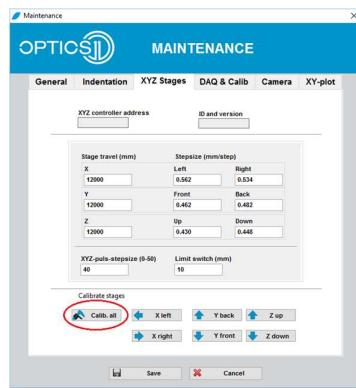

Figure 13: XYZ stage calibration when switching between Chiaro Indenter head (for previous Chiaro versions).
Since the XYZ stage travel values of the Chiaro differs for previous Chiaro versions, you need to update the right values corresponding to the preferred indenter head. This can be accomplished in the ‘XYZ stages’ tab of the maintenance menu by pressing ‘Calib. all’ (Figure 13). You can enter this menu with the password ‘showme’ after clicking the ‘Maintenance’ button in the main software window. This procedure will take a few minutes since all XYZ values are being calibrated.
7. Click the "Scan OP1550 Wavelength" button once. The interferometer screen will now show a progress bar. The live signal window on the screen show oscillations; see Figure 13 B (zoom in if needed). Wait until that is finished and check if no error (Figure 13 D) is reported on the interferometer screen or software. You can also check the final result of the "Wavelength scan" in the corresponding interferometer window Figure 13 C. If an error message states Quadrature Scan Failed check the section Calibration troubleshooting.